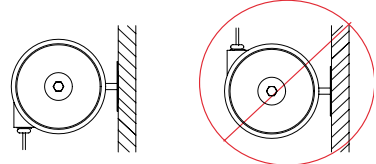

Figure 2: Correct and Incorrect Wall Mounting
- See Figure 2 for proper hose reel orientation